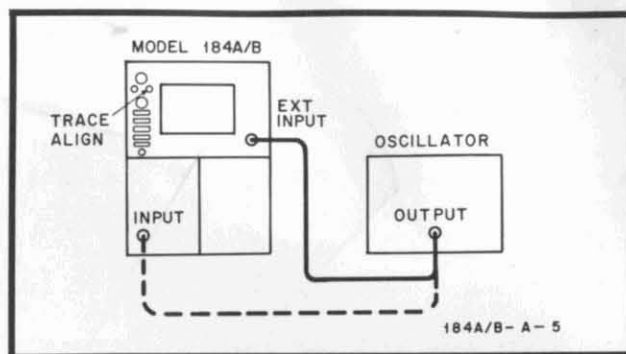

Figure 5-7. Trace Alignment Adjustment
- Connect oscillator 400-Hz 10V output to EXT INPUT (figure 5-7).
- Connect oscillator 400-Hz 10V output to input of vertical amplifier plug-in (figure 5-7).